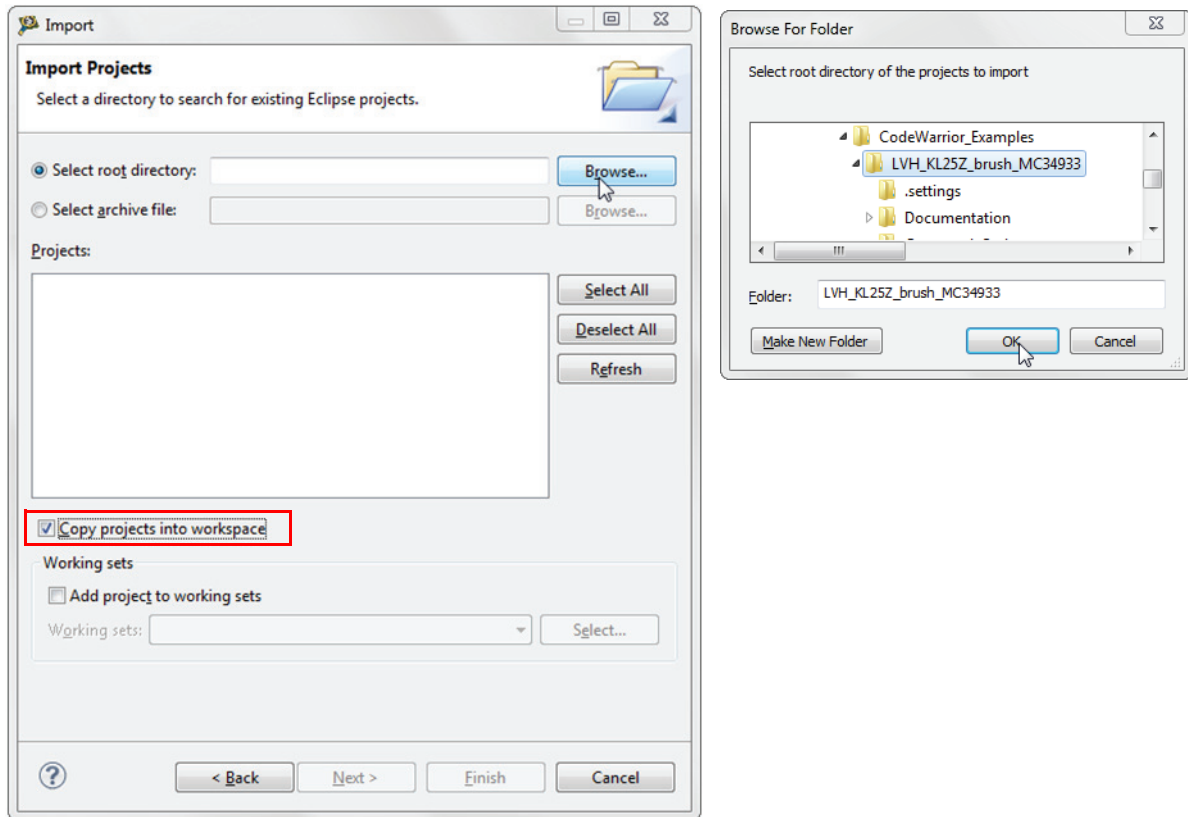

Figure 9. Example Project Import
2. Locate the example in folder: `LVH_Bridge_PEx_SW\CodeWarrior_Examples` (see Figure 9, which shows `LVH_KL25Z_brush_MC34933` as the imported project). Then click **Finish**.